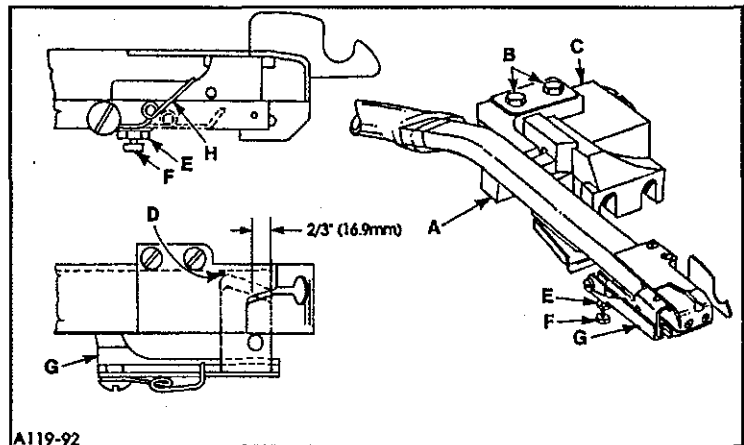

Fig. 20
The knife cross over is set at the factory, however, adjustment will be necessary after replacing or repairing knives. With sewing motor switch in "OFF" position and air line connected to air motor for "AIR-KLIPP" chain cutter (see setting pressure valve) depress treadle until air motor begins to operate, in and out. With forefinger, carefully press against the moving drive link (A, Fig. 20) until air motor stops.
With treadle still depressed, check the knife cross over. The cross over of the lower knife to the upper knife is positioned correctly, when the lower knife is 2/3 from the front of the upper knife as shown in Fig. 20. If adjustment is required, loosen screws (B), reposition air motor (C) slightly to the left if lower knife is positioned to far left or slightly to the right if lower knife is positioned too far right. Retighten screws (B) and recheck cross over.
**CAUTION!** Check to ensure that lower knife does not strike against inside of "AIR-KLIPP" chain cutter tube. A slight clearance must be provided at point (D).
If adjustment is required, loosen nut (E, FIG. 20) and turn lower knife adjusting screw (F) clockwise (a small amount at a time) while manually operating knife lever (G), continuously checking with a piece of thread to see if knives are cutting. As soon as the knives fail to cut the thread and the shear angle is zero, turn screw (F) counterclockwise approximately 1/4 turn and lock with nut (E). Check cutting action of knives with sewing motor switch "ON".
Torsion spring (H, FIG. 20) initially should be horizontal in its free state and then lifted over the knife. More pressure can be obtained by bending spring (H) slightly to the left (away from lower knife); less pressure - by bending spring slightly to the right (towards lower knife).